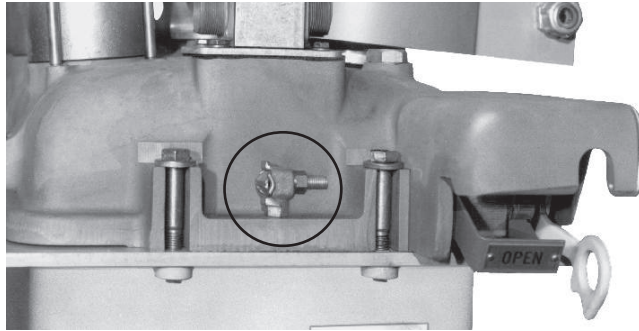

Figure 6. Ground connector on recloser head
5. Ground the recloser. Make ground connections to the recloser head (Figure 6).